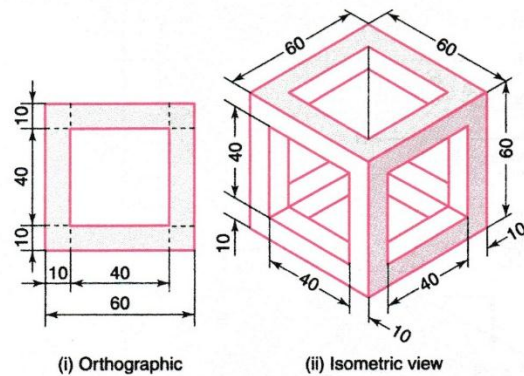

Fig. 13.81 Typical frame having the same view in X, Y and Z directions
The Fig. 13.81 (i) represents a typical frame having the same view in X, Y, and Z directions. Visualize the objects and draw the isometric view of it.
**Solution** Refer Fig. 13.81 (ii)